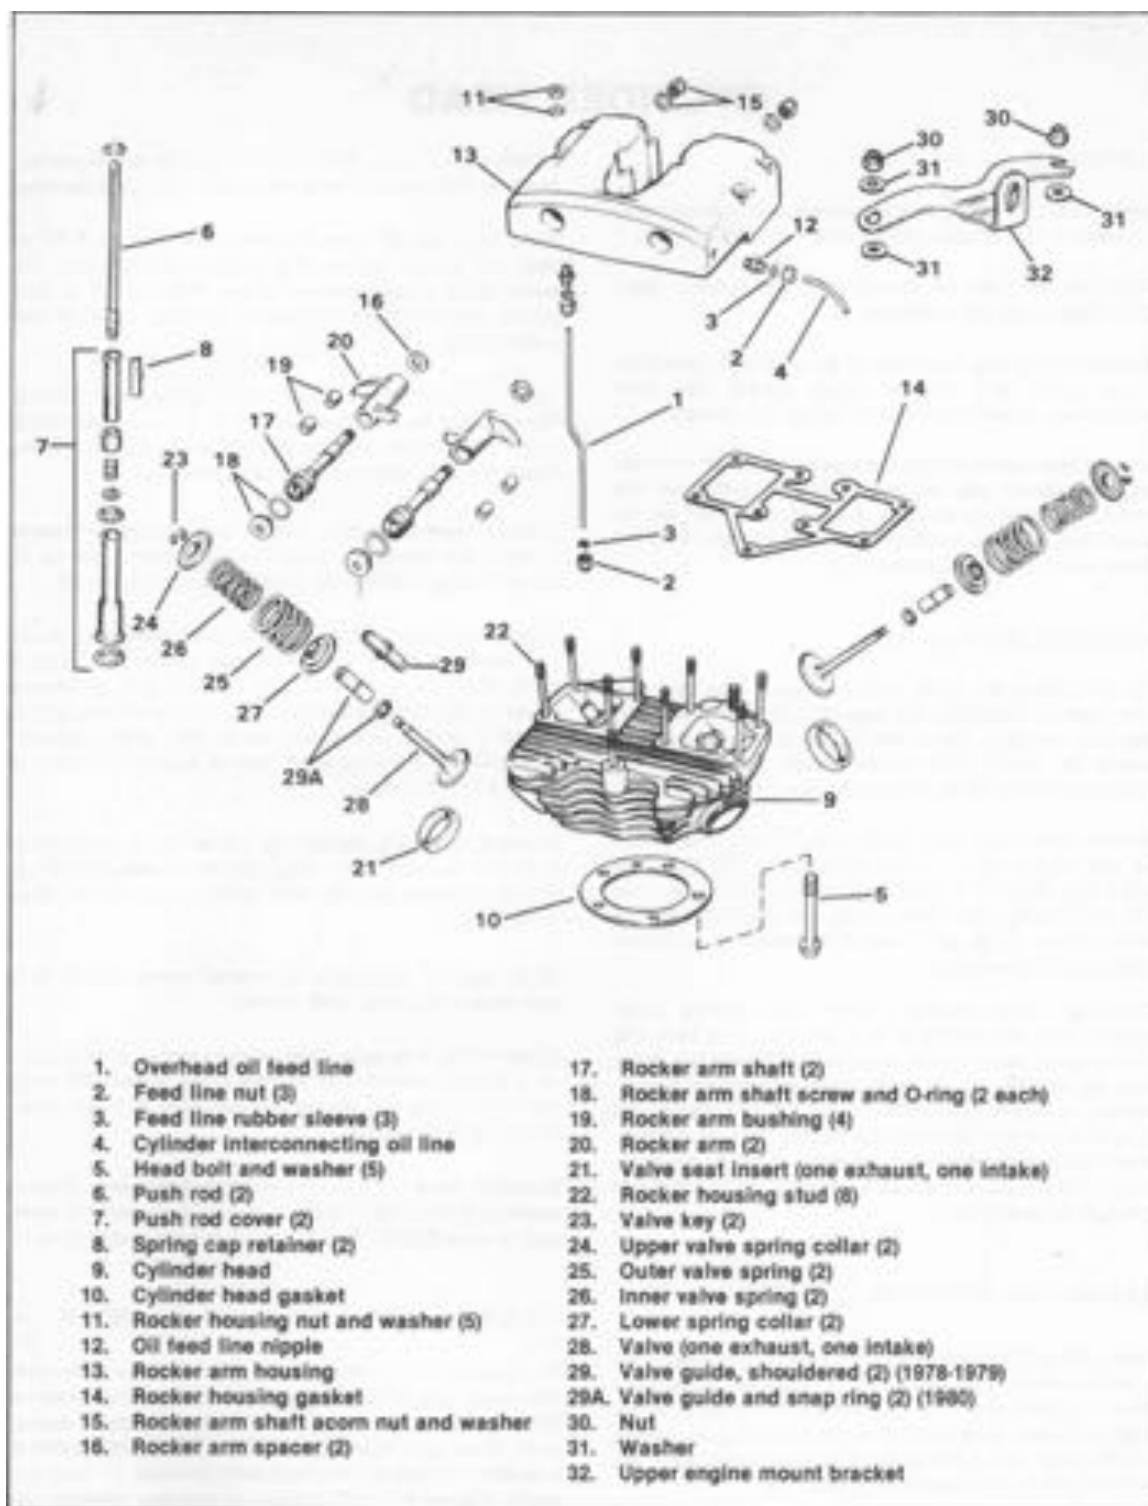

Figure 3-3. Cylinder Head — Exploded View
### REMOVING (Figure 3-3)
### DISASSEMBLING (Figure 3-3)
### REPAIRING ROCKER ARMS AND BUSHINGS (Figure 3-3)
#### ASSEMBLING CYLINDER HEAD (Figure 3-3)
3. Install front cylinder push rods and covers (8, 7 Figure 3-3). Always use new push rod cover gaskets or O-rings when re-assembling. Clean sealing surfaces with greaseless solvent. Greasy joint surfaces will make it difficult to remove gaskets or O-rings during next disassembly.